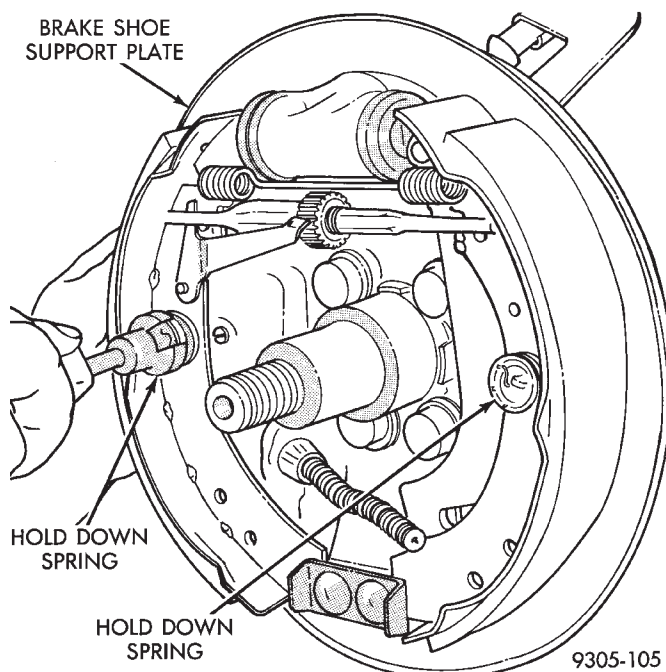

Fig. 10 Remove or Install Holddown Springs
(7) Remove the 2 brake shoe assembly to support plate hold down springs from brake shoe assemblies (Fig. 10).
(5) Install the brake shoe assembly to brake support plate hold down springs (Fig. 10).